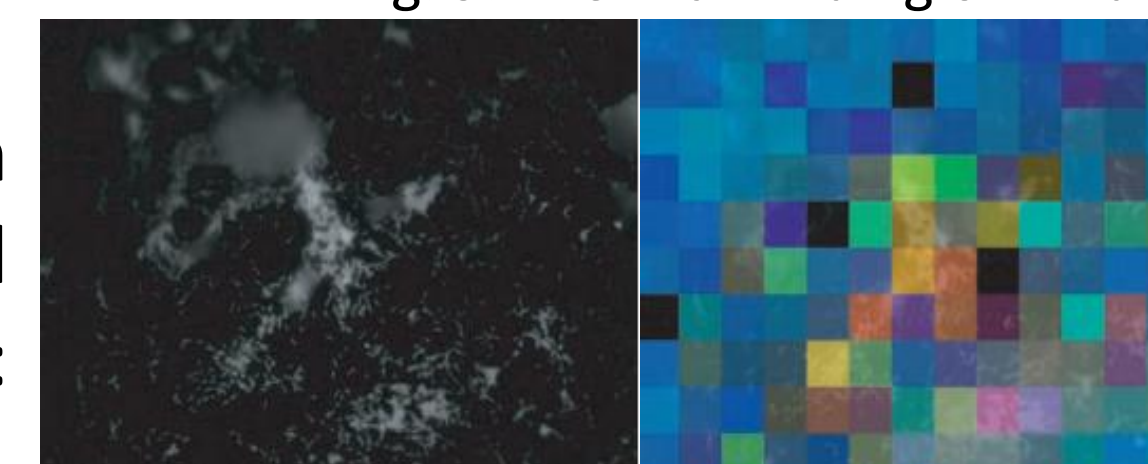

Fig. 11. Multispectral Biofilm Fractal Analysis
- Fig. 11: http://www.hpcnet.org/upload/attachments/428059_20090225074625.pdf